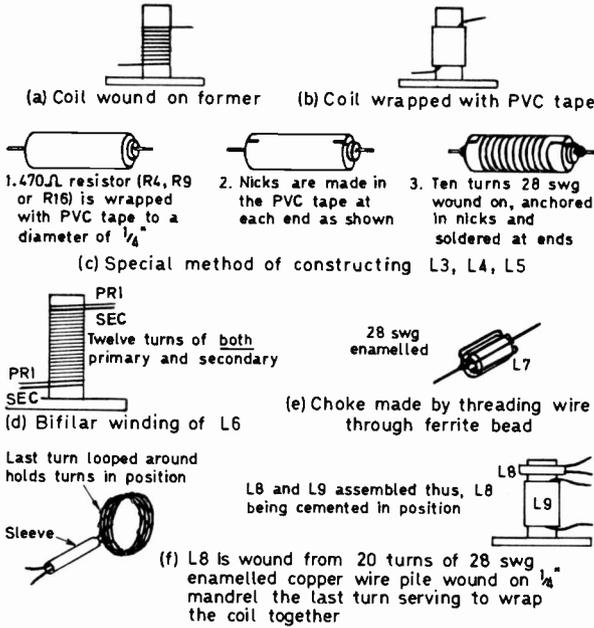

Fig. 5: Methods of constructing the coils.
When the feedthrough capacitors have been fitted construction can commence in earnest. It is best to start at the input end by fitting the input coaxial socket. A logical sequence then follows. The coils can be wound and fitted as each is completed. The method of construction is shown in Fig. 5. The
- L7 See Fig 5(e) 4 turns.
- L8 See Fig. 5(f).